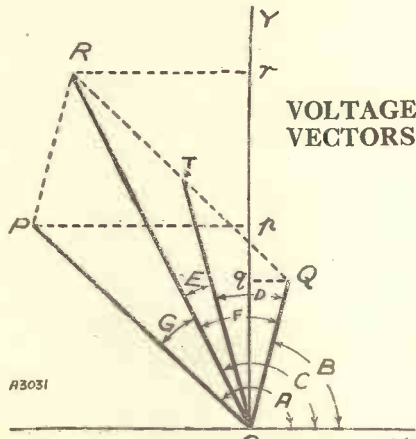
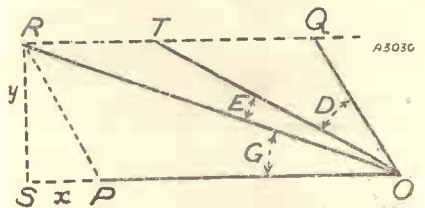

FIG. 1.
FIG. 2
Let $e_1 = E_1 \sin 2\pi Nt$ be one oscillation and $e_2 = E_2 \sin 2\pi nt$ be the other. We know that these can be geometrically represented by the projections on one axis of two vectors or lines revolving round a common centre at their ends. Let OP and OQ (see Fig. 1) be these vectors and OR the diagonal of the parallelogram POQR. Then the projection Or of OR on OY is equal to the sum of the projections of OP and OQ or $Or = OP + Oq$ (see Fig. 1). Let the angle $POX = A$, $QOX = B$, $ROX = C$, $POQ = 2D$, $ROT = E$, $QOR = F$, and $POR = G$, where OT is the bisector of the angle POQ. Hence $QOT = POT = D$. Hence we have $2D = A - B$, $C = B + F$, or $C = B + D + E = \frac{A+B}{2} + E$ and $E = D - G$.
Let us then redraw the Fig. 1 as in Fig. 2 and let $RS = y$ and $SP = x$. Then it is clear that $y/x = \tan 2D$, and $y/(x + E_1) = \tan G$ and $y/(x + E_2) = \tan D$. Inserting these values in equation (5), we find easily that
The diagram of Fig. 1 may be redrawn in the simplified manner above, thus showing the result of adding two different frequencies of dissimilar amplitude.